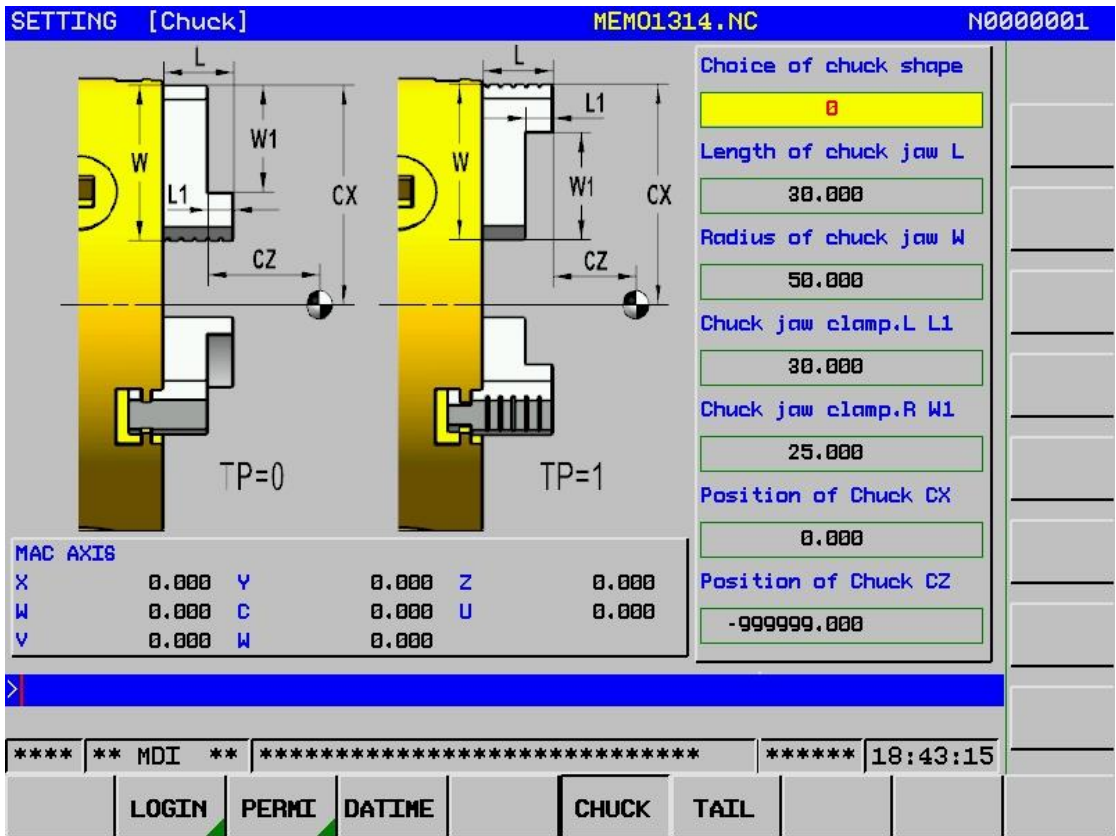

Figure 1-2 Interface of Chuck Tailstock
1. Press the  key, and the **chuck tailstock** setting interface will pop up as shown in Figure 1-2.